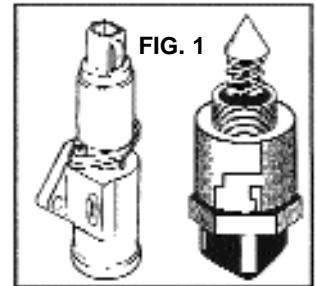
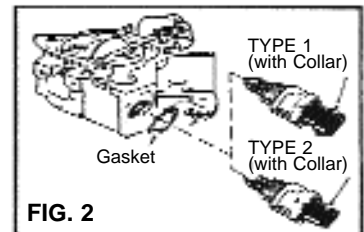
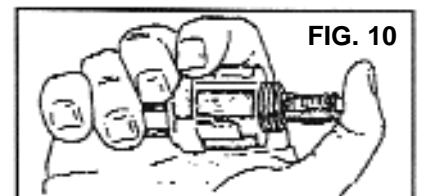

FIG. 1
FIG. 2
FIG. 10
The idle air control (IAC) motor is found on throttle body and port fuel injection units. The IAC is used by the vehicle on-board computer to adjust the amount of air that bypasses the throttle plate. This is to minimize changes in engine speed due to various idle load conditions, such as air conditioning and power steering, as well as provide cold engine fast idle. There are two basic styles (Fig. 1), and many variations as illustrated in Figures 2 and 3, but all perform the same function. Typical symptoms of failure include engine stalling or excessively high idle.
4. Referring to figure 2, determine which type of IAC motor is being replaced. Type 1 can be adjusted by pushing the pintle and shaft back into the motor housing (Fig 10). Type 2 must be turned counterclockwise into the housing while holding the tension spring down out of the way (Fig 11). In either case, ensure the tension spring is correctly seated after adjustment is made.